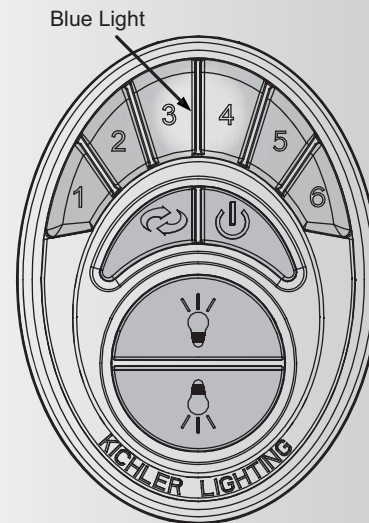

Fig. 19
The Frequency Selector is a "Dip Switch Block" inside the Battery compartment of the Transmitter. (See figure 19) You change frequencies by arranging the small switches numbered 1 through 4 in an up or down position. 16 possible frequencies or combinations are possible.
3. Test the transmitter by pushing and releasing ANY button briefly. A Blue Light should illuminate under the 3-4 buttons. (Fig. 19) If not, check to make sure the batteries are inserted and seated correctly.